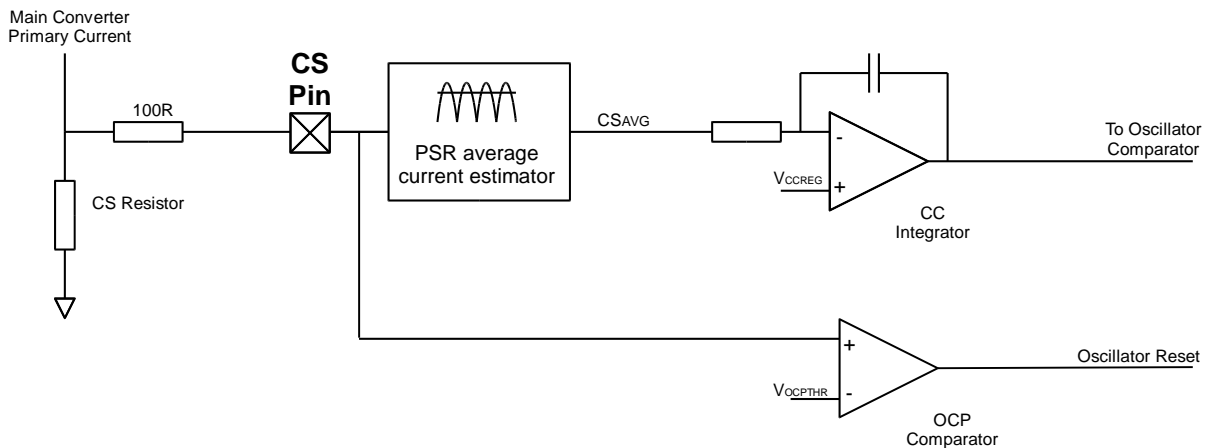

Figure 7: RED2431 Current protection and control circuits
Figure 7 shows the two current control methods used in the converter:
Shown in figure 7 the signal from the CS pin is divided into two different paths. The bottom path provides peak instantaneous over-current protection (OCP) while the PSR Average Current estimation block provides the current regulation (CC) information. The voltage on the CS pin is an AC signal biased around GND. Inside the PSR block this signal is processed to provide a voltage proportional to the average converter output current.
The CC regulation circuit is shown in Figure 7. CC operation is defined by an internally compensated control loop. This provides a system response time of approximately 300us in a typical application. The average current regulation point,  $V_{CCREG}$  is pre-set to 150mV, referred to the CS pin.